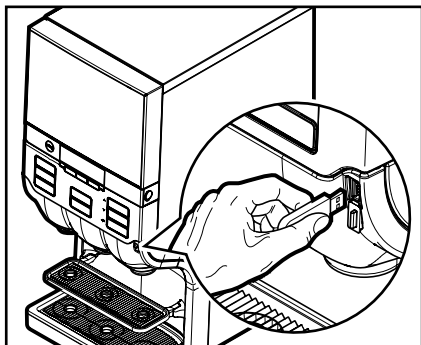

Fig. 29
- Insert the supplied USB key into the USB port on the dispenser. (Fig. 29)